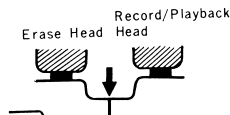

Fig. 13
**TAPE PADS PRESSURE** (Refer to Figure 13)**Measurement**